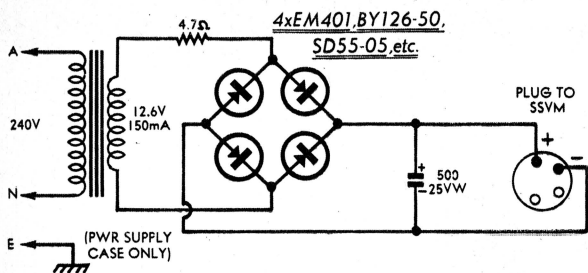

Figure 1 MAINS POWER SUPPLY
**POWER SUPPLY:** The small power supply whose circuit is shown in figure 1 will perform the required function while leaving substantially unaltered